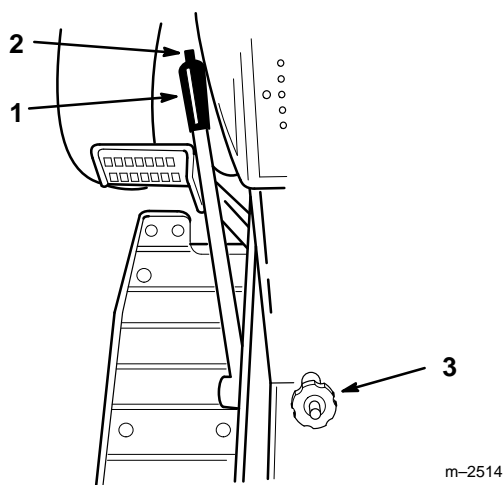

Figure 21
The attachment lift lever (Fig. 21) is used to raise and lower various attachments.
The Dial-A-Height control (Fig. 21) is used to limit the downward travel of the attachment. The Dial-A-Height knob is rotated to change the location of this stop, up or down.
1. Raise the attachment lift: Refer to Raising Attachments. In the raised position the Dial-A-Height knob (Fig. 21) can be rotated to change the stop location. Turn clockwise to raise and counterclockwise to lower the height of the attachment.
2. The Dial-A-Height indicator (Fig. 21) will show the change, high to low, in attachment lift height as adjustment is made.